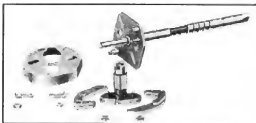

Fig. 38—Distributor Automatic Advance Mechanism
6. Remove the cam and centrifugal weights. Wash all parts in cleaning solvent. Figure 38 shows the parts of the advance mechanism.